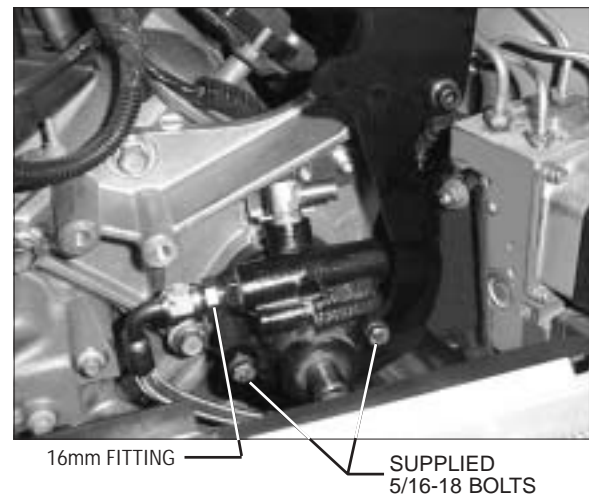

Fig. 7-a
- G. Assemble the power steering pump and front supercharger support bracket using two 3" x 5/16-18 through bolts and the factory 8mm bolt in its original location. (See *Fig. 7-a*.)